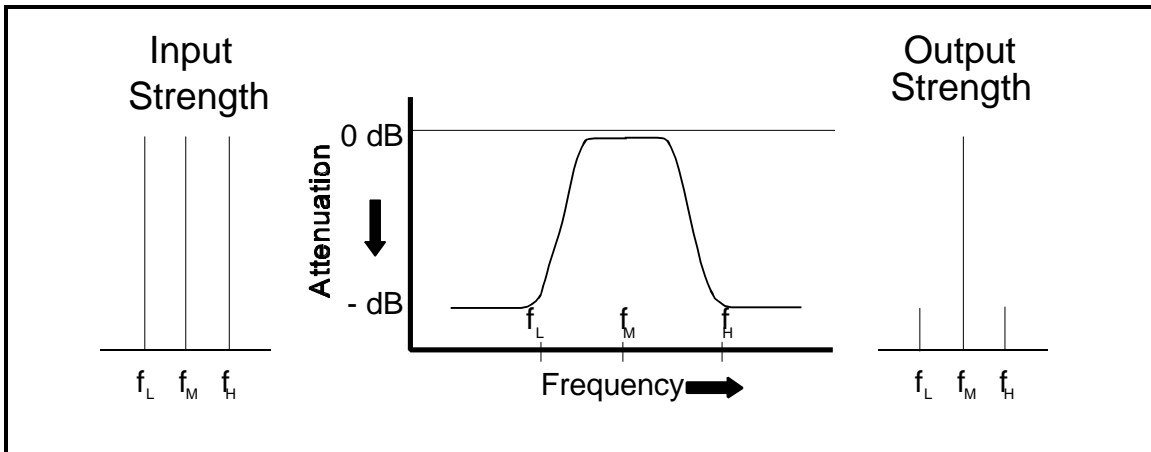

Figure 3. Band-Pass Filter
3. A band-pass filter which passes signals between two predetermined frequencies as shown in Figure 3.